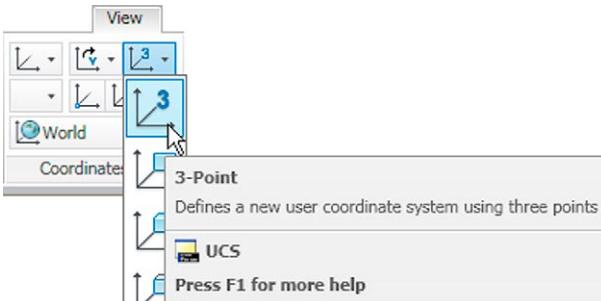

Fig. 17.13 The **UCS, 3 Point** icon in the **View/Coordinates** panel
4. Click the **3 Point** tool icon in the **View/Coordinates** panel (Fig. 17.13):